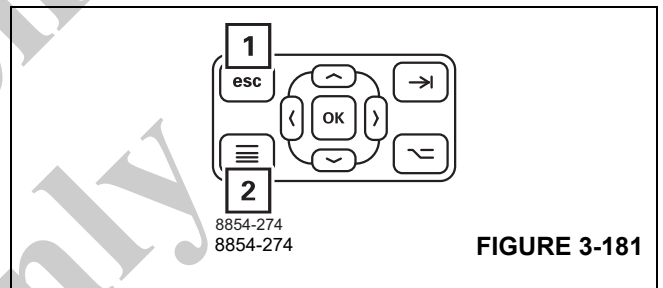

FIGURE 3-181
You can cancel the entry at any time using the (1), (Figure 3-181) or (2) buttons. The settings are then reset.